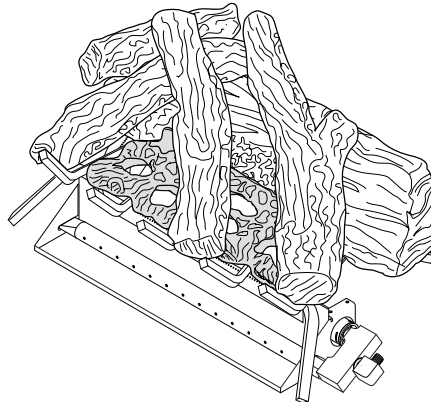

Figure 20 - Installing Logs
3. Place the middle layer of logs as shown in Figure 20. Notice the groove in the back log for placement of log to the far right. Adequate space should be left between logs and ember bed for flames.